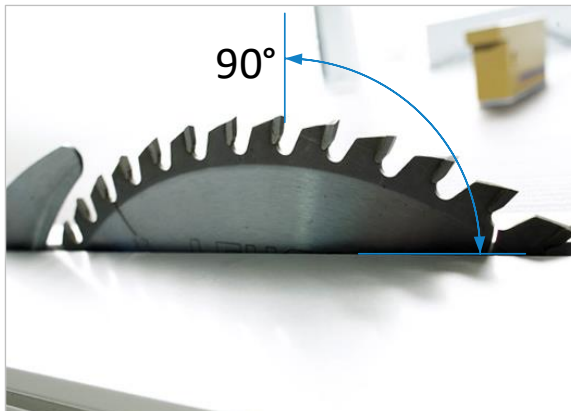

Figure 62: Prepare saw blade position
First turn off the main switch on the control cabinet and lock it with a padlock. Turn the stationary saw blade by hand so that one saw tooth is exactly in the centre of the axis and its cutting surface is at a 90° angle to the table top of the machine (see ⇒ Figure 62 on the next page).
- Turn the stationary saw blade by hand so that one saw tooth is exactly at the top in the centre of the axis and its cutting surface is at a 90° angle to the table top of the machine (⇨ Figure 62).